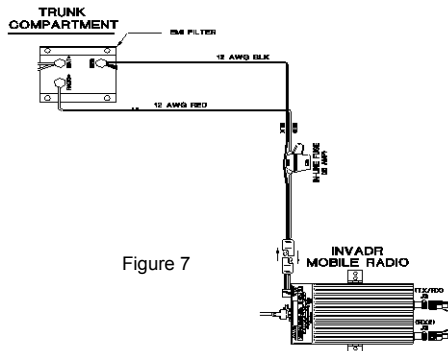

Figure 7
**Step 2** Route and wire the power cable extension red wire (#12 AWG), via the 15 AMP in-line fuse, to the radio (+) terminal connection on the EMI Filter (see Fig. 7).